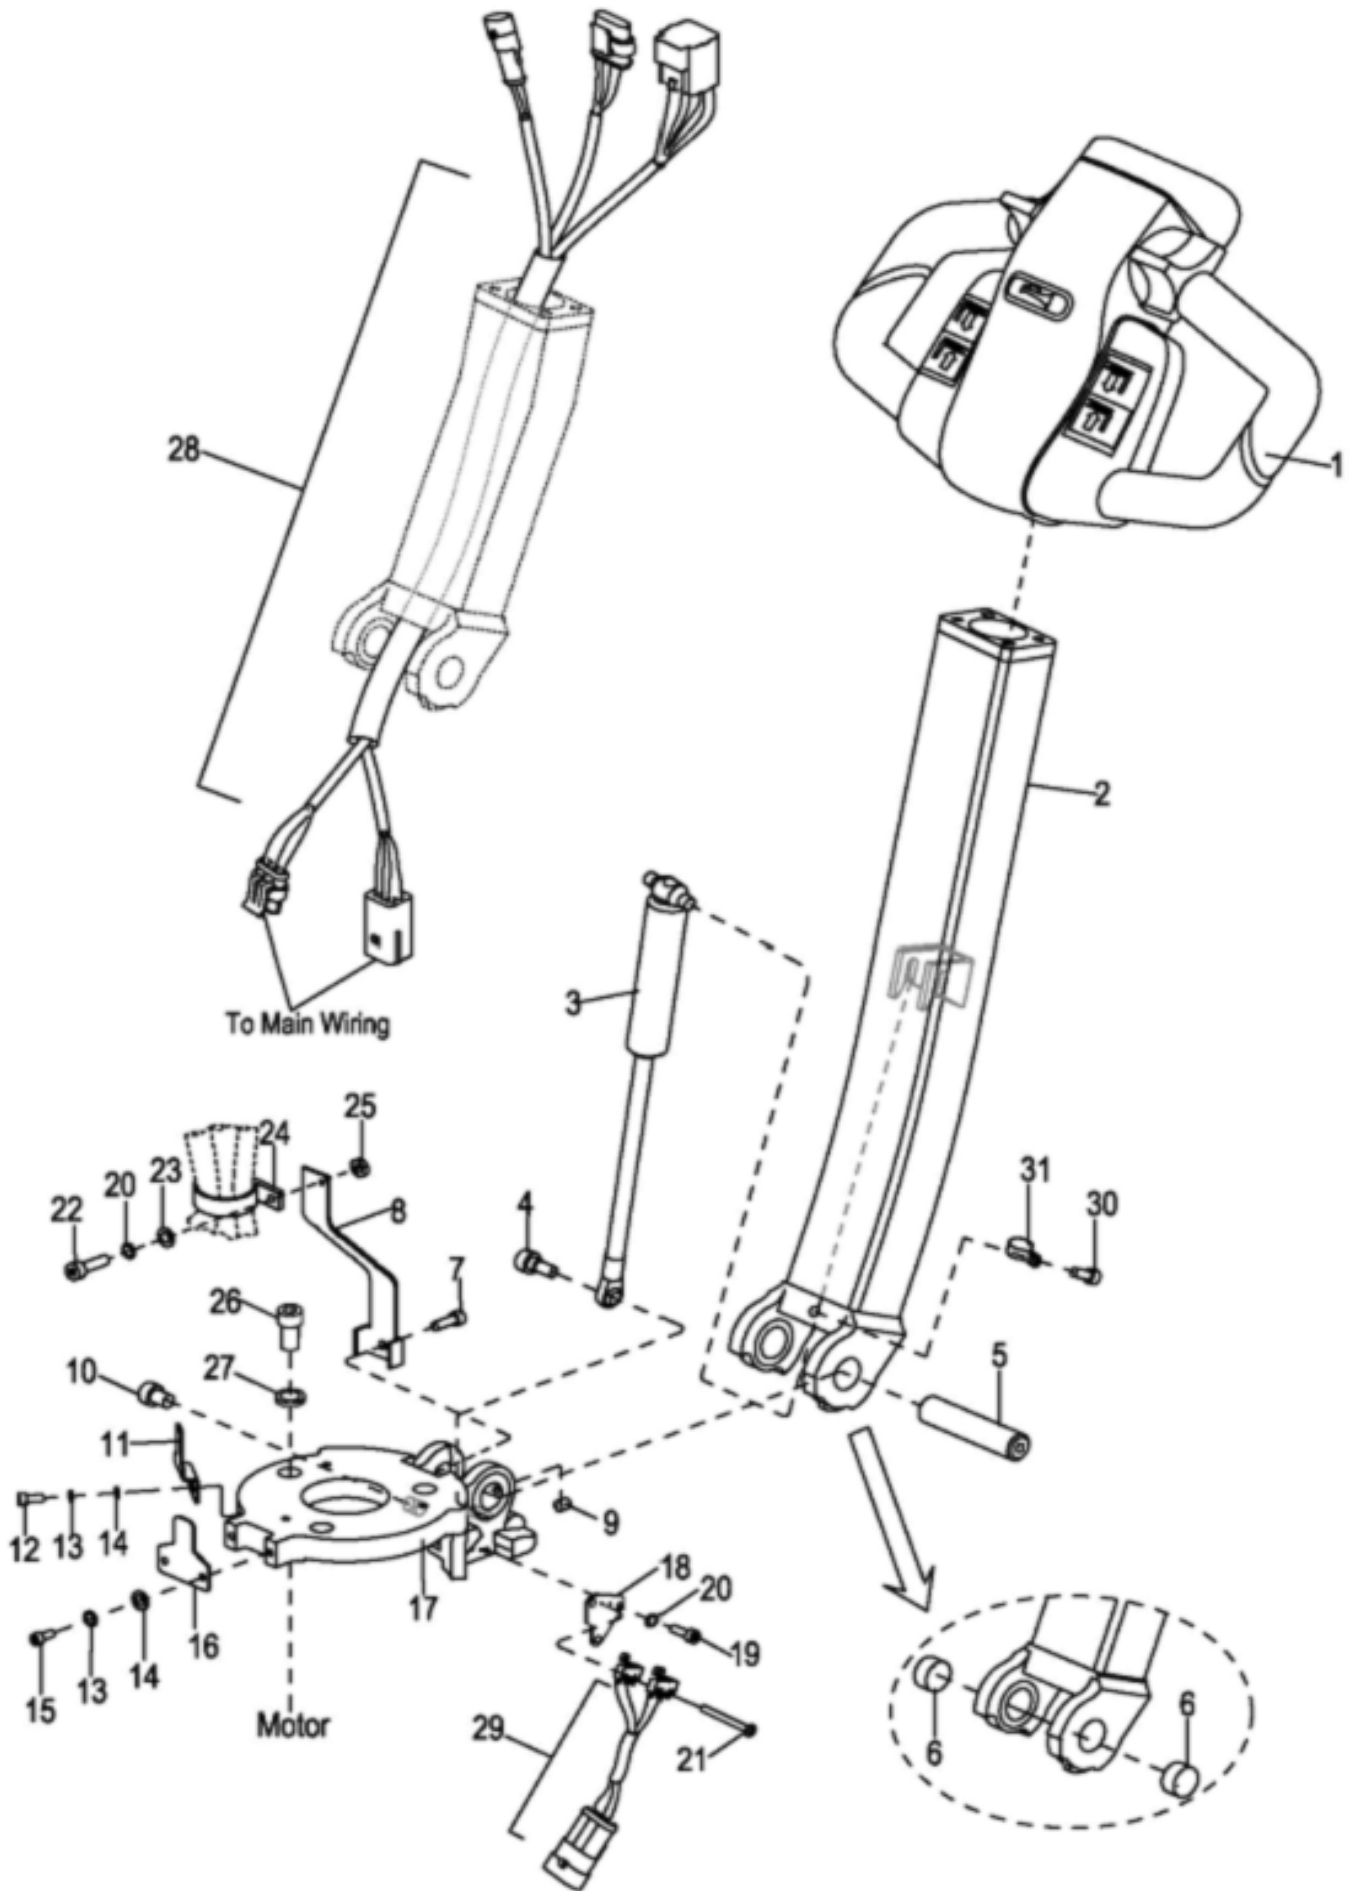

Figure 12-1 Steering Arm
1. Disconnect harness (1, Figure 12-18) from the deadman switch (29, Figure 12-1).
2. Remove the two screws (21), and switches (29) from bracket (18).
3. Position the new switches (29) on bracket (18) and secure with the two screws (21).
4. Reconnect harness (1, Figure 12-18) to the deadman switch (29, Figure 12-1).